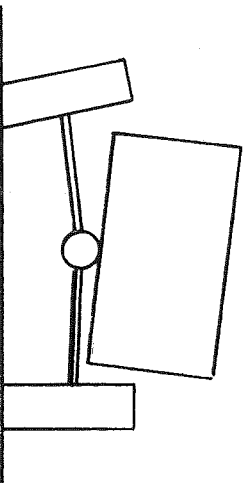

Fig. 9
4. FIG. 9 Forces on the wheels begin to lift the rear of the car (jacking), promoting camber changes in bounce. The outside wheels camber changes and begins to straighten up. This situation represents the maximum cornering power developed by the rear suspension, at which both wheels are positively contributing to cornering power. Beyond this point the driver will begin to feel instability.
At normal cornering speeds a positive camber angle generally increases cornering ability and gives a stable understeering vehicle. However, by reference to Fig. 9, it can be seen that the camber of the outer wheel will promote tuck under much earlier.